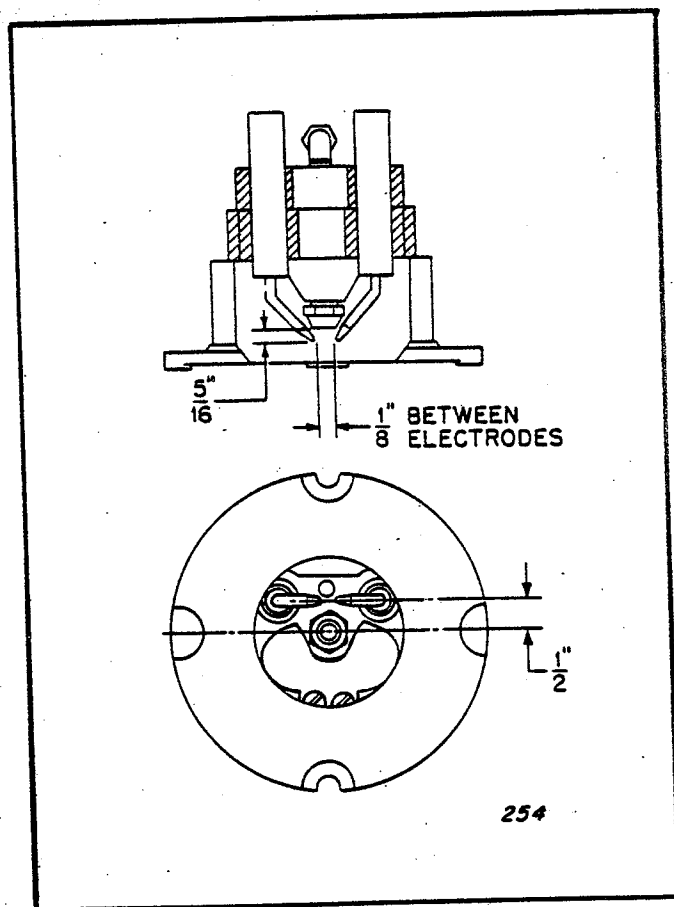

Figure 2. Electrode Setting
3. Reset the electrodes in accordance with Fig. 2.